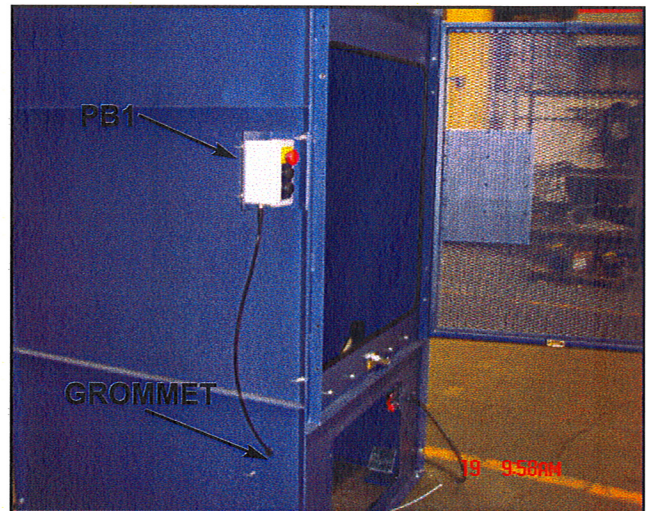

Figure 13
8. Remove access cover below lower level gate to gain access to control panel cables. Feed cable (PB1) through hole with grommet in lower panel and to where you have mounted push button station near lower level gate. Secure cables inside and outside of lift so they don't interfere with moving parts of lift. Match wire tag to device. See Figure 13.